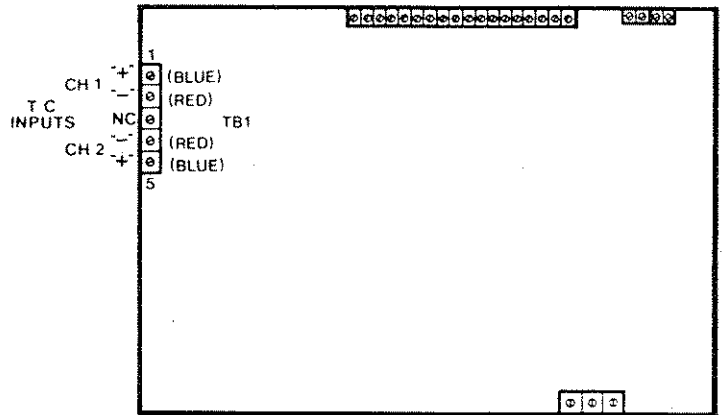

FIGURE 2
1. If the alpha display shows - OPEN T/C -, check the connections on TB1 on the main board. See Figure 2.